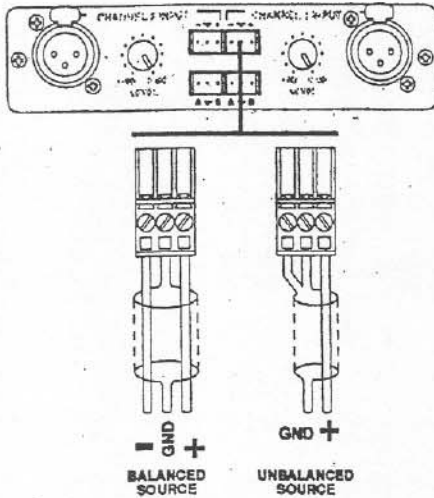
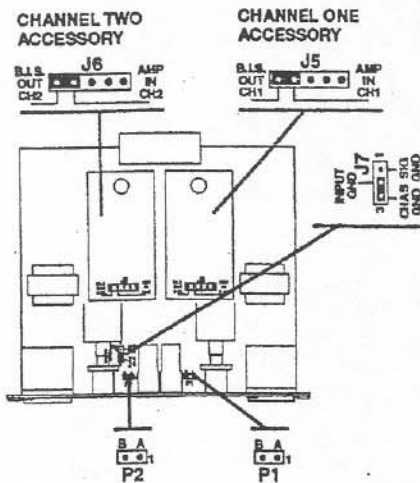
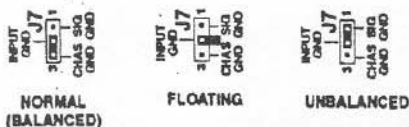

Figure 1 Connections for balanced or unbalanced signal sources.
Figure 2 Internal jumpers for accessories, link connector and ground jumper.
Figure 3 Input grounding options.
Balanced input connections may be made to either the three-pin screw terminals or the XLR connectors. The screw terminal connections are internally wired directly to the XLR pins. XLR pin 1 corresponds to the screw terminal marked with a ground symbol. XLR pins 2 and 3 correspond to the terminals marked "+" and "-" respectively (refer to input board schematic on page 19). Figure 1 illustrates two types of connections to the input module using the detachable 3.5 millimeter plugs that are provided as part of the accessory kit. The first connection shown is for interfacing to a balanced signal source. The source generates two signals (+ and -) and provides a ground reference for shielding. The optimum ground reference for this configuration is the chassis ground of both the source device and the amplifier. This configuration requires that the internal ground jumper is set in either the "CHAS GND" position or the floating position (see figures 2 and 3). The second connection
shown in figure 1 is for an unbalanced signal source. Since the "-" of the unbalanced signal source is also the signal-ground, the "-" terminal of the amplifier must be referenced to this same point. The internal ground jumper must be in the "SIG GND" position for all unbalanced connections (see figures 2 and 3). The balanced and unbalanced connections shown in figure 1 can also apply to XLR connectors. If you are using XLR connectors and you intend to float the shield, be sure you are not inadvertently connecting the chassis ground to the cable shield through the fourth connection of the XLR connector. Some XLR connectors provide a fourth connection to the metal housing which will connect to the chassis ground of the amplifier when plugged in.
To help facilitate various grounding connections for pin 1 of the XLR connectors (and the input terminal ground), a three pin jumper is provided on the standard input module (figure 2). This jumper connects pin 1 of both XLR connectors to either the chassis ground (indicated by CHAS GND) or signal ground (indicated by SIG GND). The unit is shipped with pin 1 connected to the chassis (Figure 3). This position offers the best isolation from ground loops and noise if you use a uniformly shielded twisted pair cable that does not include a drain wire. A third option is to float the input ground by removing the jumper completely (Figure 3). This will break ground loops but may not offer good shielding unless the signal source provides a good ground for the cable shield. You should only use the signal ground position if you are using unbalanced signal sources.
Each channel of the standard input module provides the user with a flexible three-pin link connector. There are two primary functions that the link connector performs. (1) It provides a way to insert an external signal processor into the signal path by isolating the entire balanced input stage from the unbalanced input to the amplifier. (2) It provides buffered outputs for the optional accessories that plug into the standard input module. The pin marked 'A' of each link connector is hard-wired to the output of the optional accessory module (figure 6). The pin marked 'B' is unassigned. This pin ties to a header (P1 for channel 1, P2 for channel 2) inside the standard input module and is not connected to any circuit in the board (figure 2). The center pin of the link connector is hard-wired to the analog-signal ground and is used as the ground reference for all link connections to external components (refer to input board schematic on page 19).
You can isolate the entire balanced input stage for each channel by removing the jumper J5/ch1 or J6/ch2. The output of this stage is marked on the pc board as 'B.I.S. OUT CH1' or 'B.I.S. OUT CH2' (figure 2). This signal can be brought out of the module via the 'B' pin of the Link connector by patching 'B.I.S. OUT CH1 or CH2' to the post header of P1 or P2 that is marked 'B' (figure 4). The accessory kit that is included with the amplifier contains several post-header terminals that can be used to build shoring jumper wires. The signal can be returned via the 'A' pin of the Link connector since it is hard wired to the unbalanced amplifier input. The ability to insert signal processors such as filters, equalizers and compressor/limiters allows the user to take advantage of the features of the balanced input stage (i.e. H-pad, transformer isolation and ground selection) which is not likely to be available on most signal processing equipment. Figure 5 shows how this feature can be used to insert an equalizer into the audio path for channel one using the internal connections shown in figure 4.